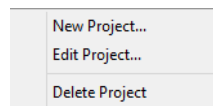

Figure C-19: Projects Tab Menu with All Options Active
1. Right-click on a project to display the Tab menu (Figure C-19).